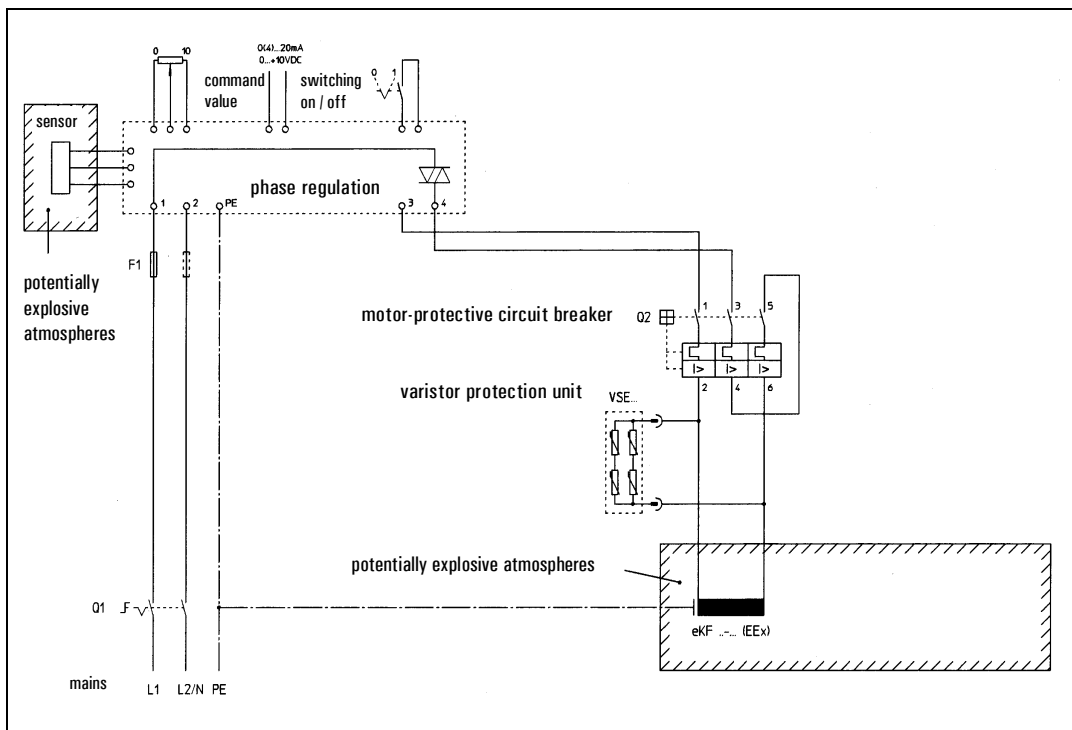
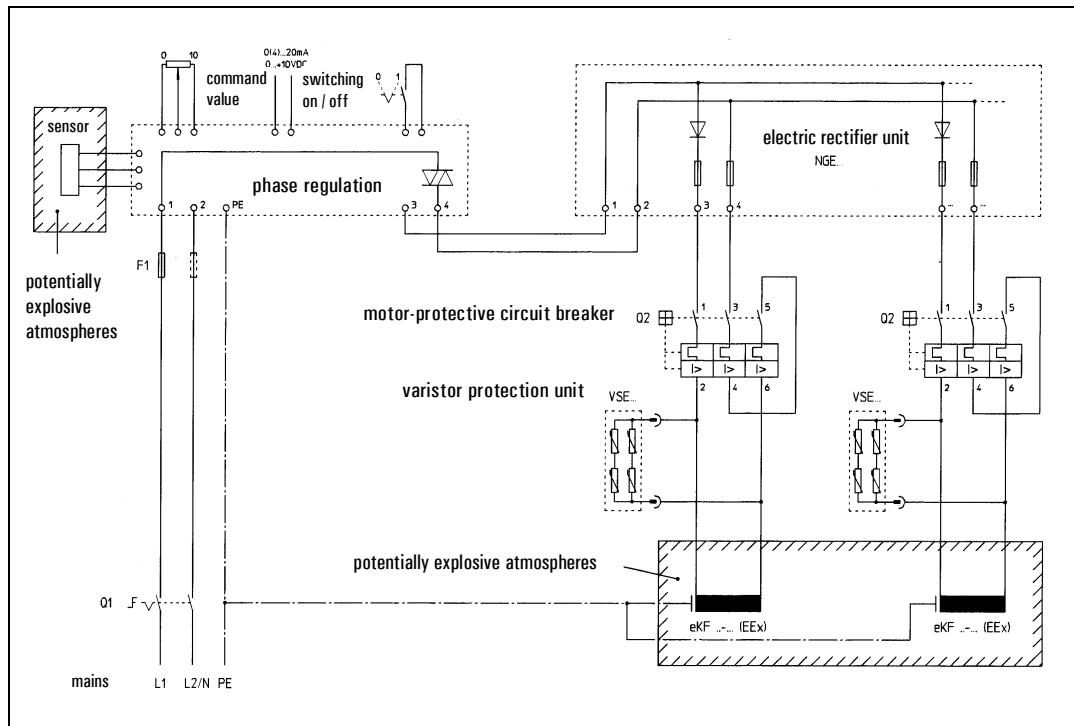

Figure 4-4 Connection diagram, single drive
Figure 4-5 Connection diagram, multiple drives
Depending on the application a single small-parts conveyor drive (s. figure 4-4) or up to 4 small-parts conveyor drives (s. figure 4-5) can be operated with a single controller.
For single drives the wiring has to be carried out as shown in figure 4-5 below.
If several small-parts conveyor drives (multiple drives) are operated with a common controller the wiring has to be carried out as shown in figure 4-5 below.
*With multiple drives (s. figure 4-5) further a AViTEQ electric rectifier unit (NGE...) is required!*